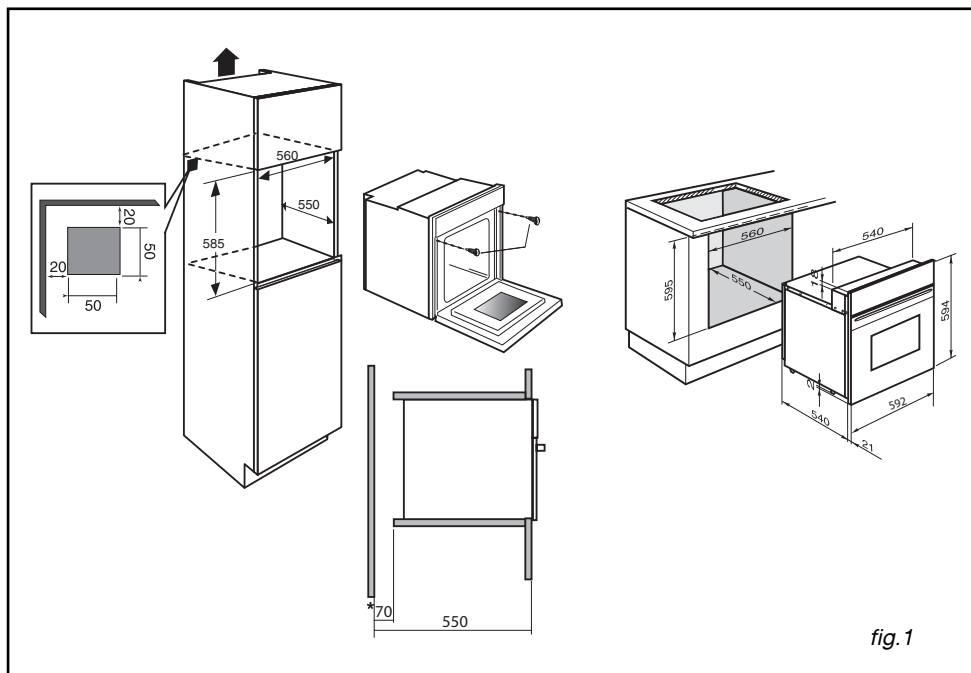

fig. 1
- For greater stability, attach the oven in the cabinet with two screws through the holes provided for this purpose on either side of the front inner panel (fig.1).
• **Anti-rocking safety grid (fig.1)**
- slide one of the forks onto the spit; skewer the piece of meat to be roasted; slide on the second fork; centre and tighten by screwing on the two forks using the handle (fig.1).
- Open the door completely and block it open using the two red stops (fig.1).